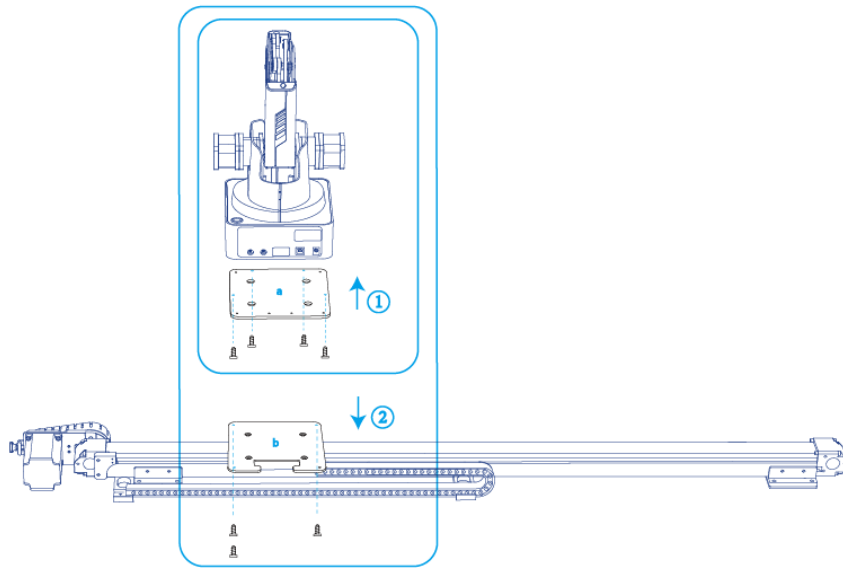

Figure 1.3 Fixed position with screws
Step 2 Fix the plate **a** (with Dobot Magician) on the plate **b** with three M3*8 hexagon socket head cap screws. Please make the back of the base of Dobot Magician towards the rabbet on the plate **b**, as shown in Figure 1.3.